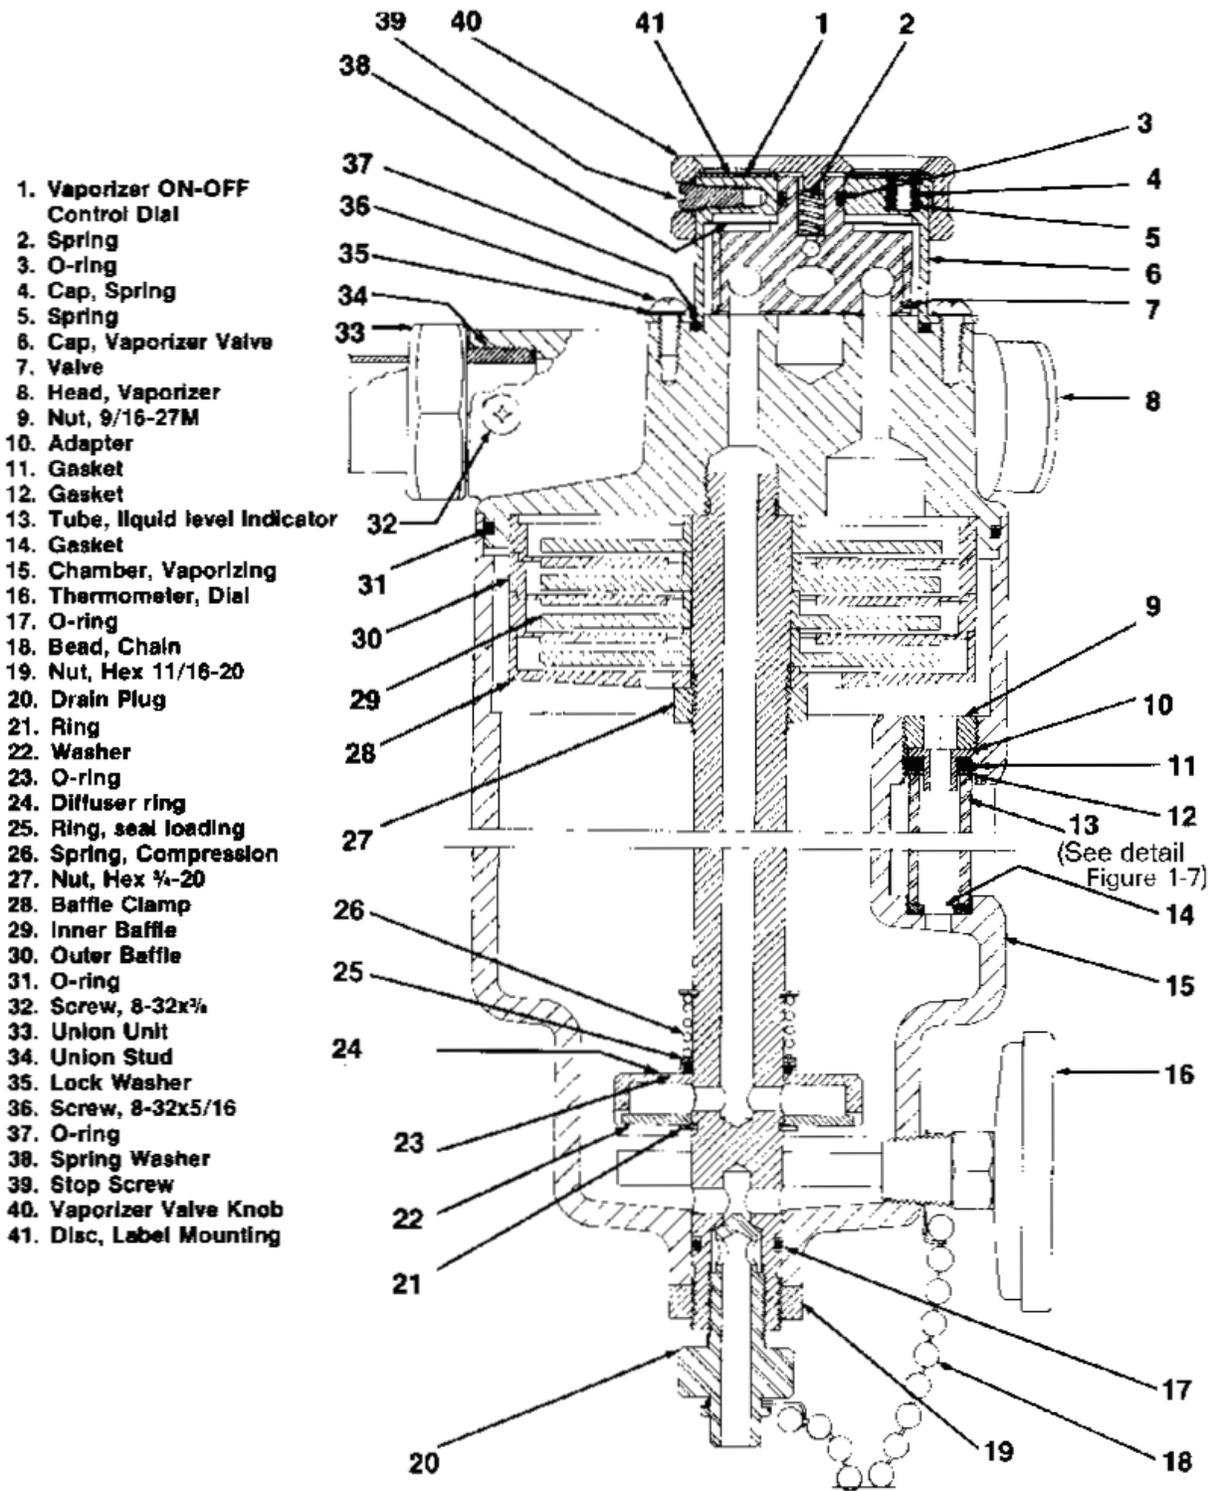

Figure 1-6. Anesthetic vaporizer.
c. Vaporizer. Refer to figures 1-6 and 1-7.